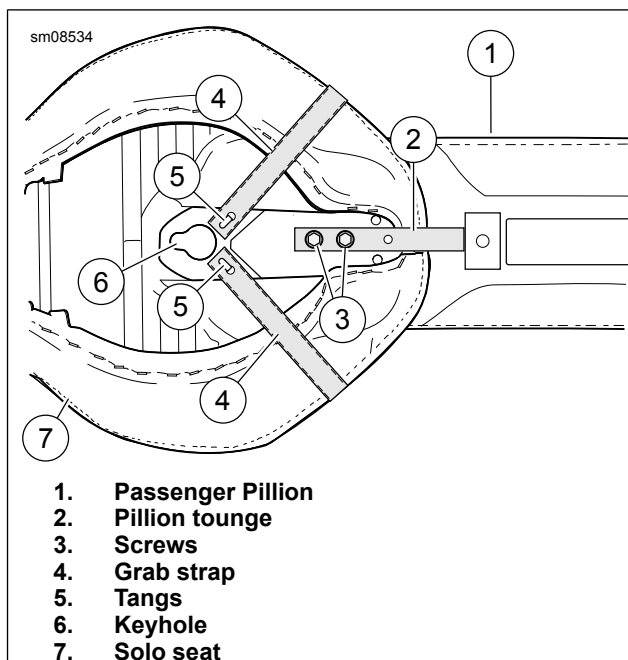

Figure 4. Pillion and Grab Strap Installation
6. See Figure 4. Attach the passenger pillion to the solo seat by sliding the metal bracket on the pillion over the solo seat. For 52400125: Attach metal tab on pillion to solo seat with OE flange screws (C). For 52400127: Attach metal tab on pillion to solo seat with new screws from kit (3). Tighten to 4.5–6.8 N·m (40–60 **in-lbs**).
7. Install the grab strap (4) onto the bottom of the seat. Hook one side of the grab strap onto the tang (5) on the underside of the seat. Loop the grab strap over the seat. Hook the remaining side onto the other tang.